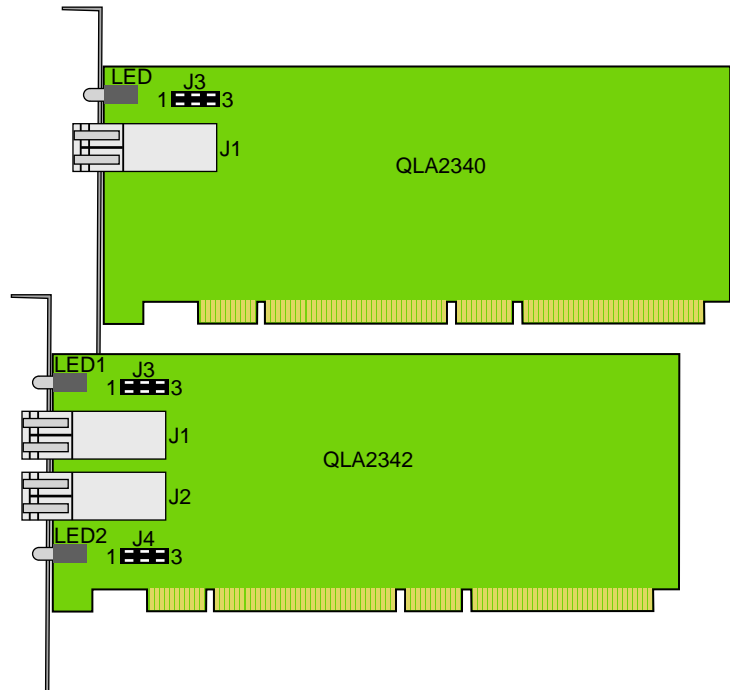

Figure 124 Reconfigure the adapter jumper
2. Locate jumper(s) J3 (QLA2340) or J3 and J4 (QLA2342), shown in Figure 124 on page 177.